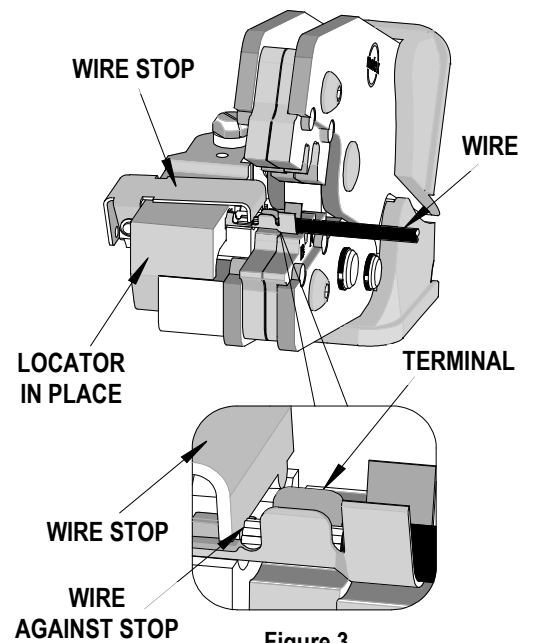

Figure 3
6. Insert the proper wire over the terminal. Some large OD wires may need to be placed into the terminal before closing the tool. Gently touch the wire stop with the end of the wire. See Figure 3.